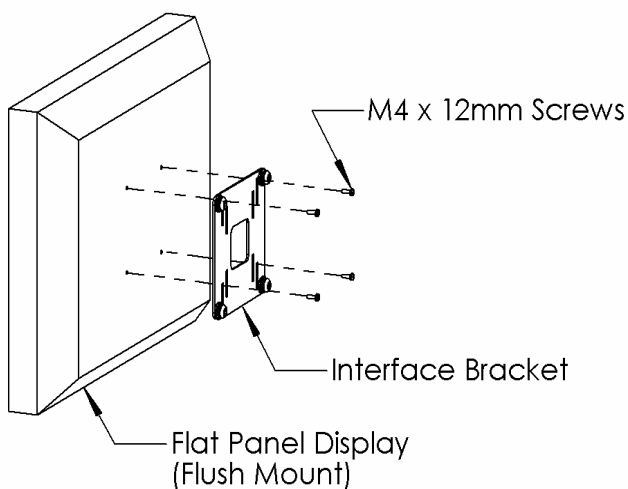

Figure 3
2. Secure the adapter plate to the flat panel display using M4 x 12mm screws (see Figure 3).